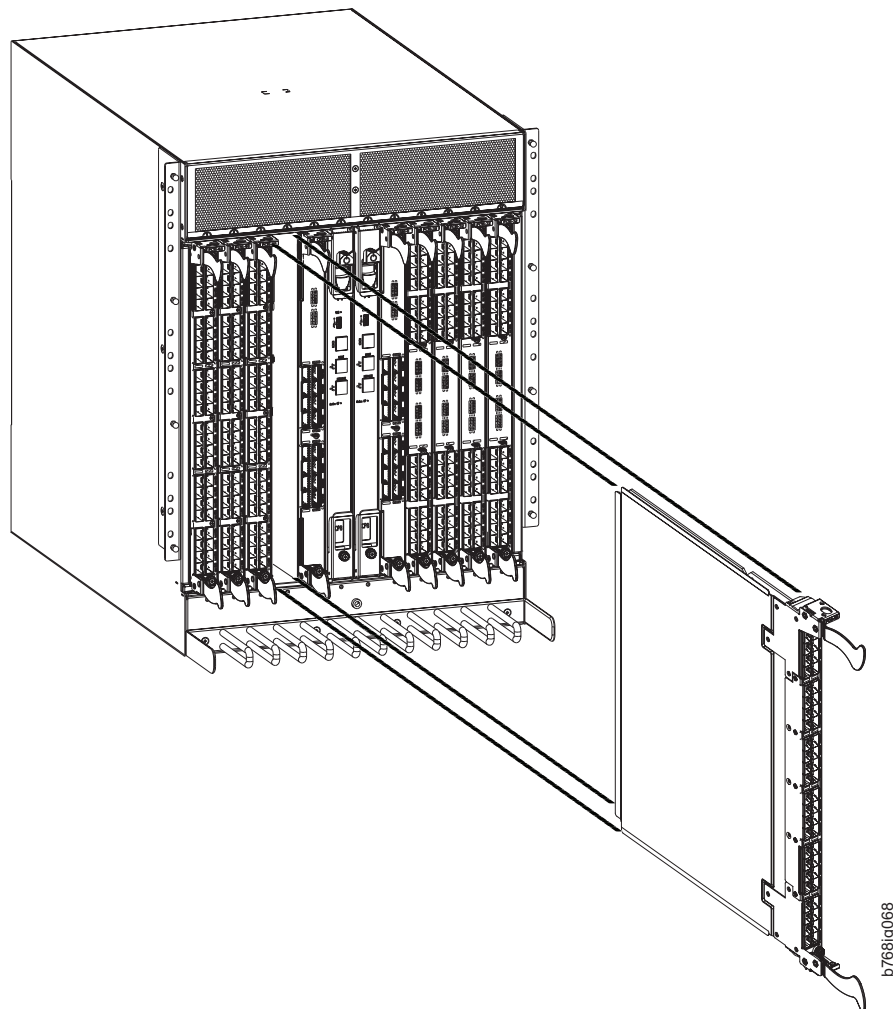

Figure 29. Port and application removal and installation (FC16-48 port blade shown as example)
8. Unscrew the two thumbscrews from the top and bottom ejectors on the blade (see Figure 29) using the Phillips screwdriver. Unscrew the top thumbscrew until it pops out. This initiates a hot-swap request.
10. Open the ejectors by pulling them toward the center of the blade face. Pull the blade out of the chassis using the ejectors (Figure 29).